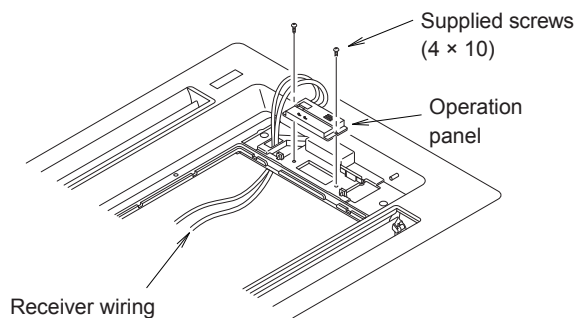

Fig. 3-2-8
- Fasten the operation panel to the location shown in the figure below with the 2 enclosed screws (4 × 10). (Fig. 3-2-8)